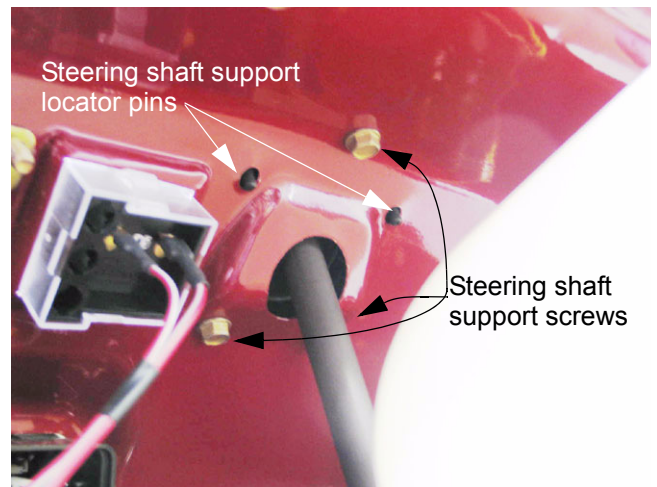

Figure 15.5
- 15.5. To remove the steering shaft support, take out the three screws that fasten it to the dash panel using a 3/8" wrench. See Figure 15.5.